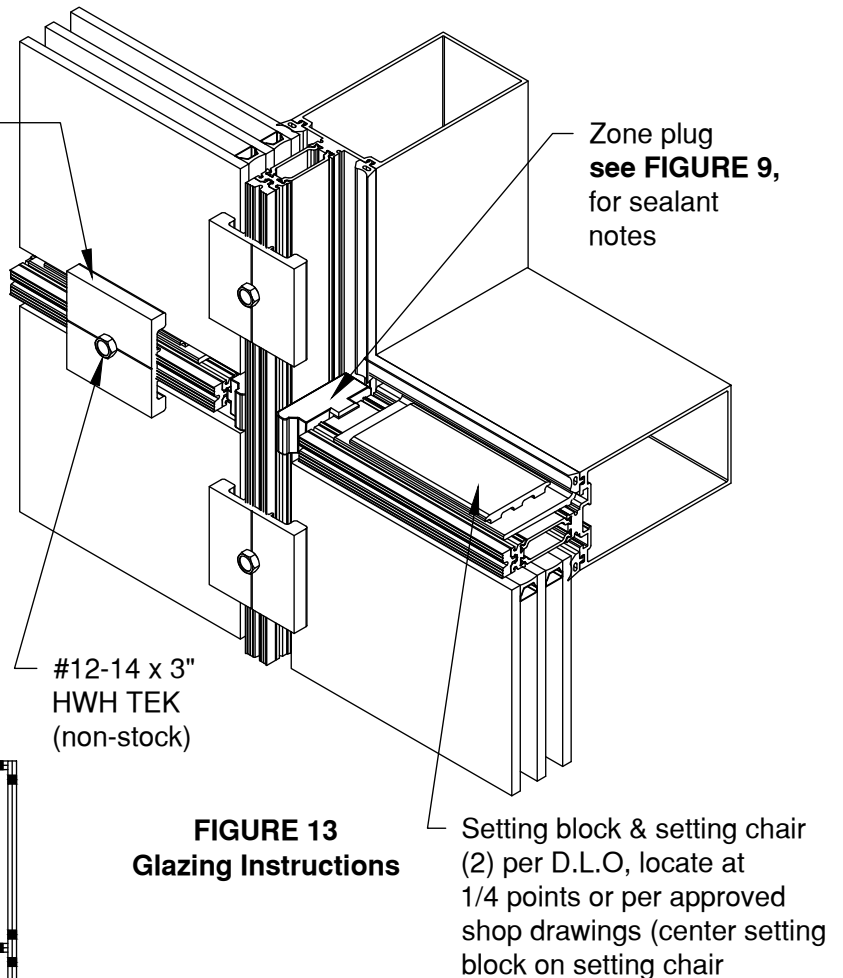

FIGURE 13
- WW-333 temporary glazing retainers must be applied at each glass edge 3" from the corner (minimum of 8 per lite). Glass edges greater than 4' in length but less than 8' require an additional retainer at the glass mid-span. **SEE FIGURES 13 & 14.**